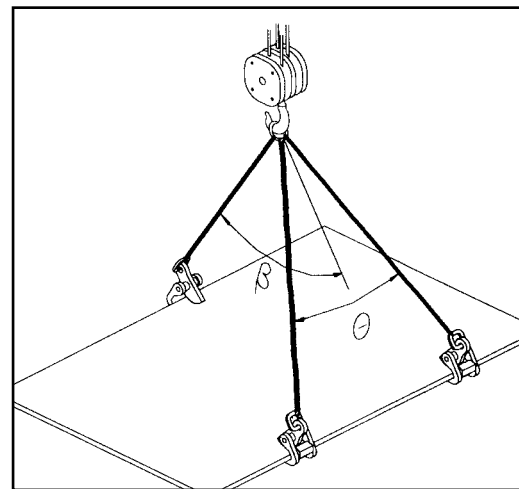
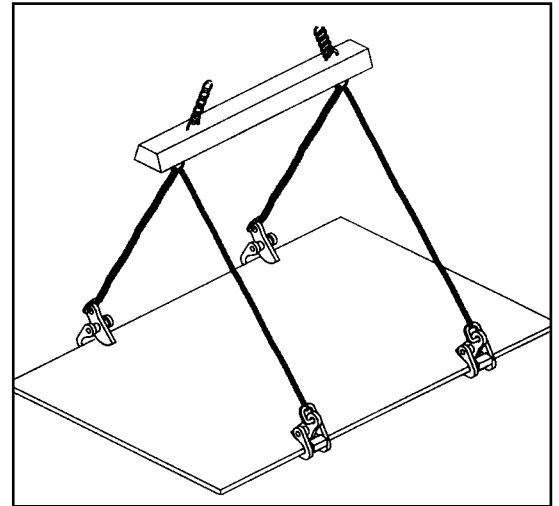

Figure 42
Figure 43
- B. The lifting angle (Fig. 42) between the sling legs on opposite sides of the load should be less or equal to 60 degrees ( $\beta \leq 60^\circ$ ). The lifting angle between the sling legs on same side of the load should be less or equal to 20 degrees ( $\theta \leq 20^\circ$ ).
- C. The Working Load Limit of any multiple sling assembly (Fig. 42) or spreader bar assembly (Fig. 43) must not be more than the combined Working Load Limit of two clamps, regardless of the number of clamps in the assembly.
Position the clamp(s) so the lifting force of the crane is directly in line with each clamp's lifting shackle, and the load is evenly distributed (Fig. 43).